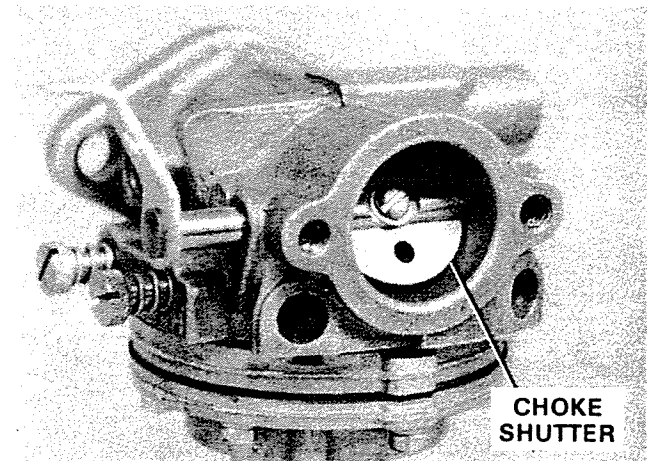

Figure 16. Position of Choke Shutter.
A. Note position of choke shutter. Figure 16.